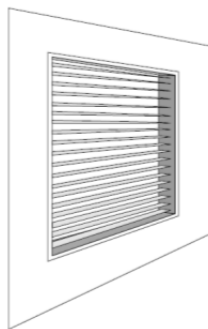

Figure 22: An exterior shade screen fits neatly within window framing, a bit away from the glass. Design for easy removal, to ease cleaning.
- **Use exterior shade screens for a smooth facade.** Exterior shade screens (Figure 22) are highly effective on all facades and permit a filtered view. These can be insect screens, perforated metal scrims, or roller shades. The openness of shades determines the effectiveness of shading. Moveable roller shades provide greater energy efficiency.